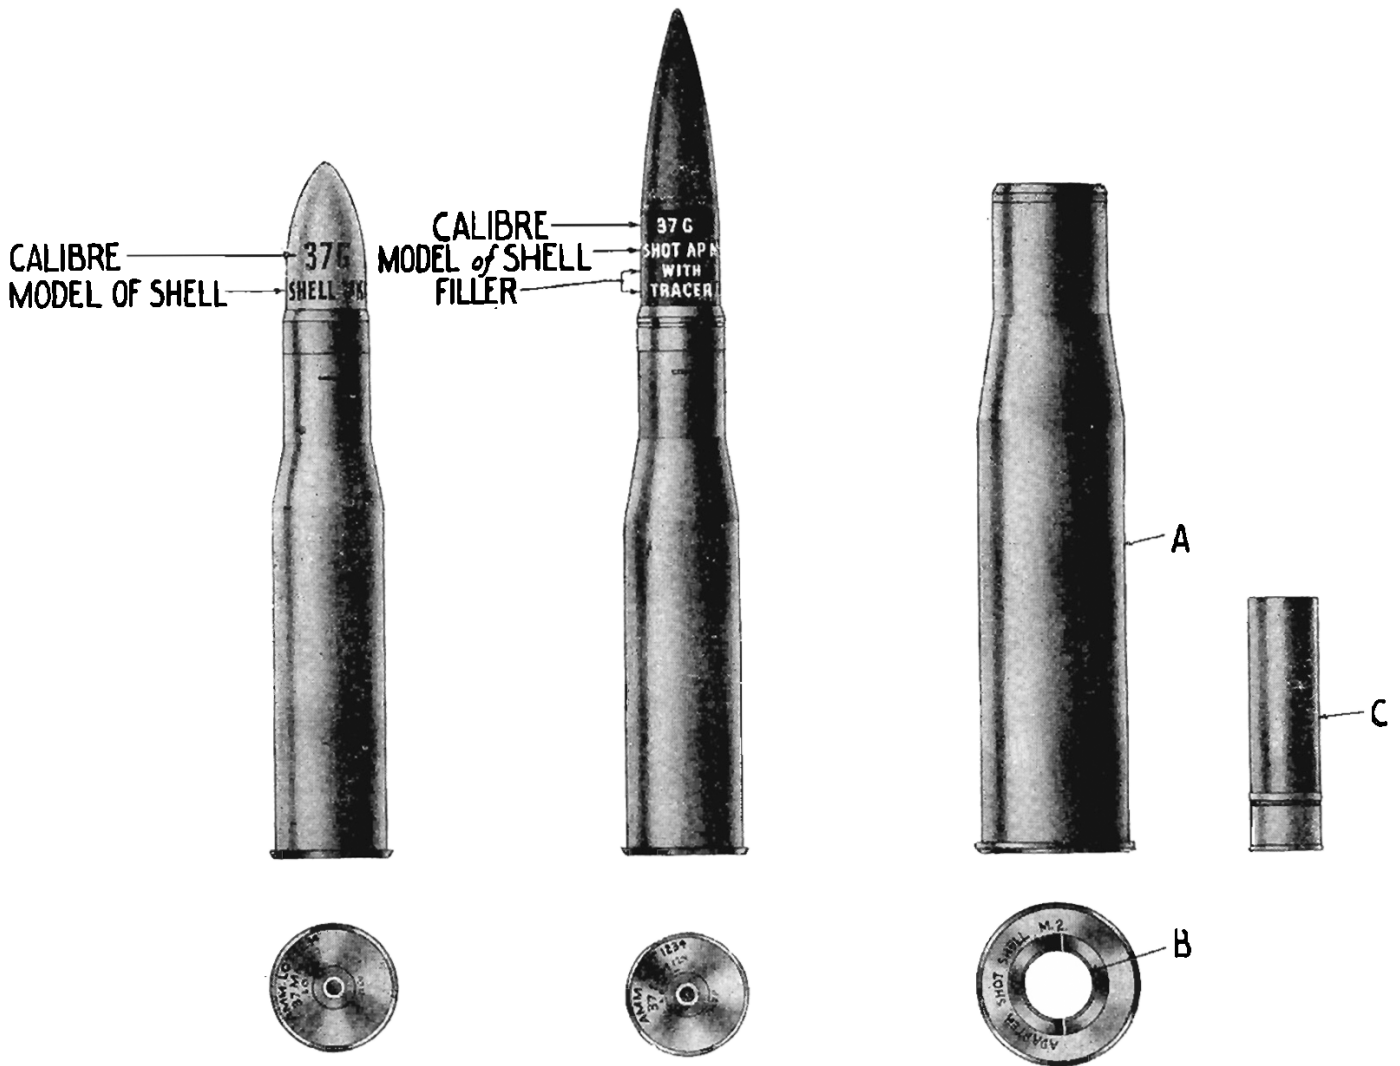

Figure 79. Ammunition 37 m/m
The blank ammunition (see Fig. 79) requires adaptor, shot shell (10 gauge) M.2 which consists of a standard cartridge case (A) with the addition of a liner (B) chambered for a standard 10 gauge shot gun shell (C).